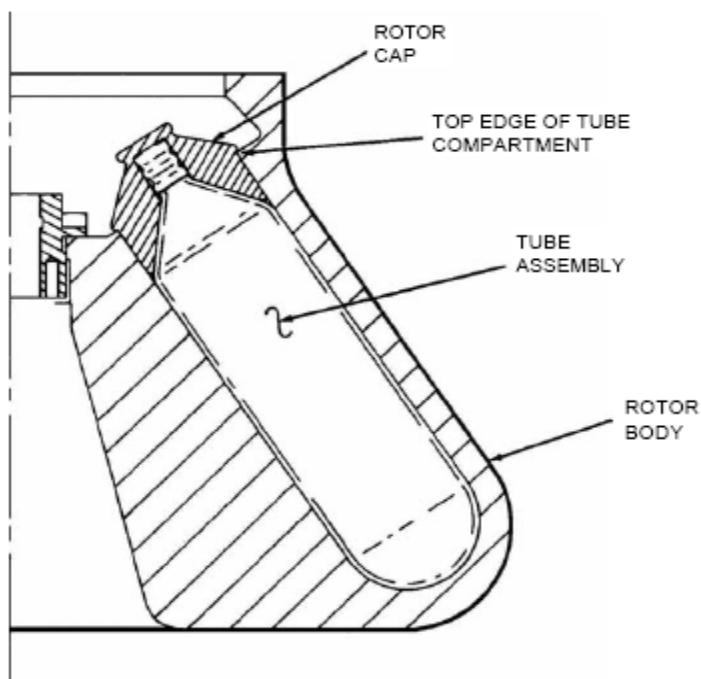

Figure 2-4. Properly Seated ULTRACRIMP® Rotor Cap
1. Gently load filled tubes into the tube compartments, balancing the rotor as described. If using ULTRACRIMP® tubes in the SA-300, insert a rotor cap (Catalog No. 03538) into each tube compartment that contains a filled tube. The rotor cap will seat against top edge of tube compartment (see figure 2-4).
The rotor speed/temperature differential graphs in figure 2-4 can be used as guides to determine the temperature setting (blue selector) required to maintain a desired sample temperature of 4°C or 20°C. The graphs are approximate since the actual temperature offset (the difference between indicated chamber temperature and sample temperature) depends on the efficiency of the condensing unit and the ambient temperature. The graphs given in figure 2-4 were created using an RC-5B PLUS Centrifuge, therefore, if you are using an RC-5, or RC-5B Centrifuge, the efficiency of the refrigeration system may vary. We recommend performing a test run based on the curves supplied, then adjusting the set temperature accordingly. The required offset is different for each specific rotor. To familiarize yourself with the information given in figure 2-4, refer to the following examples:
For runs at temperatures other than 4°C or 20°C, interpolate to find the set temperature using the appropriate rotor graph given in figure 2-4. Then, do a test run using that interpolated set temperature. Adjust the set temperature upward or downward accordingly. Example B below shows an interpolated set temperature.